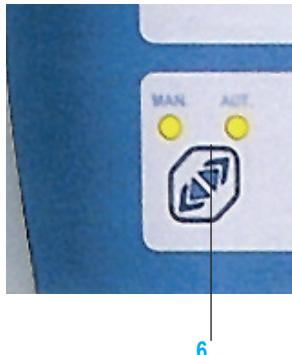

Fig 5.2 Toggle key and indicator for mode set.
- Select AUTOMATIC mode. Key «6» toggles working mode. See Fig 5.2